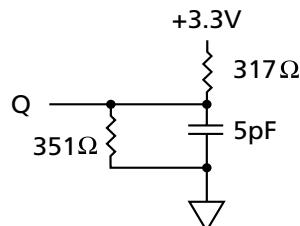
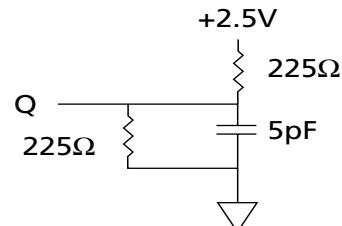

Figure 2
Figure 4
4. The load used for V_{OH} , V_{OL} testing is shown in Figure 4 for 2.5V I/O. AC load current is higher than the shown DC values. AC I/O curves are available upon request.
3. This parameter is measured with the output loading shown in Figure 2 for 3.3V I/O and Figure 4 for 2.5V I/O.